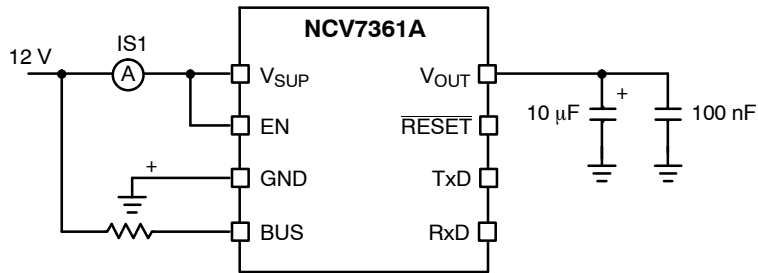

Figure 6. Test Circuit for Supply Current I_{SnI}
4. See Figure 6 for test setup.